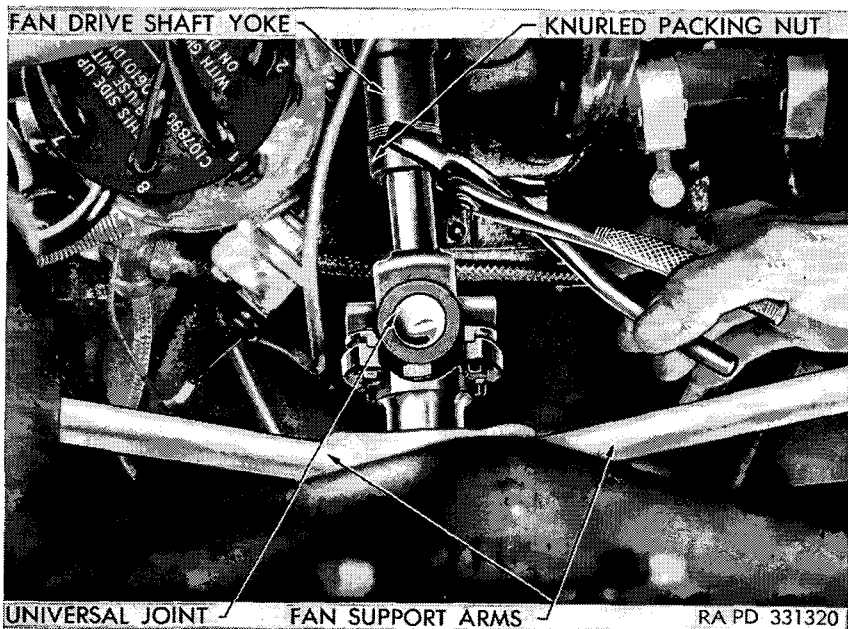

Figure 48. Loosening fan shaft knurled packing nut.
- (7) *Disconnect fuel line at carburetor.* Loosen hose clamp on fuel line at carburetor and slide hose off nipple.
- (8) *Loosen fan shaft knurled packing nut.* Loosen packing nut on fan shaft and slide nut away from fan (fig. 48). Fan shaft will slide out of spline when engine is removed.
- (9) *Disconnect tachometer flexible shaft.* Disconnect tachometer flexible shaft at distributor support by unscrewing coupling and sliding core out of support. Tie shaft out of way to prevent damage.